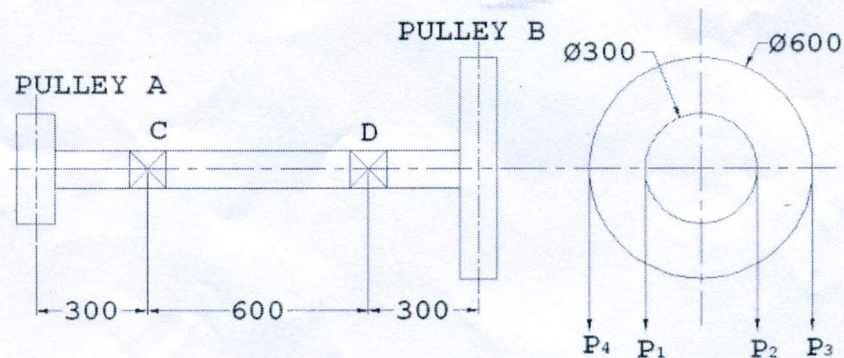

Figure 2
- Q-4 A** A shaft supported on two bearings carries two pulleys as shown in figure 2. The shaft transmits 10 kW power at 300 rpm from pulley A to pulley B. The pulley A has a diameter of 300 mm and mass of 15 kg, while pulley B has a diameter of 600 mm and mass of 40 kg. The belt tension act vertically downward and ratio of belt tension on tight side to slack side for each pulley is 3:1. The shaft is made of steel for which the permissible shear stress intensity is 65 N/mm^2 . What should be the diameter of the shaft? Also calculate the shaft diameter based on the torsional rigidity if the permissible angle of twist is 0.4° per meter length. Assume modulus of rigidity for shaft material as $80,000 \text{ N/mm}^2$. 7